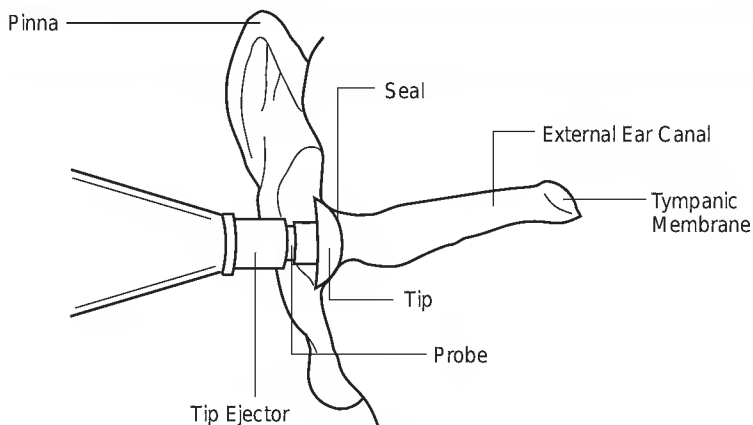

Figure 2
1. After examining the subject's ear canal opening, select a tip which is large enough to seal the entrance of the ear canal. See **Figure 2**.